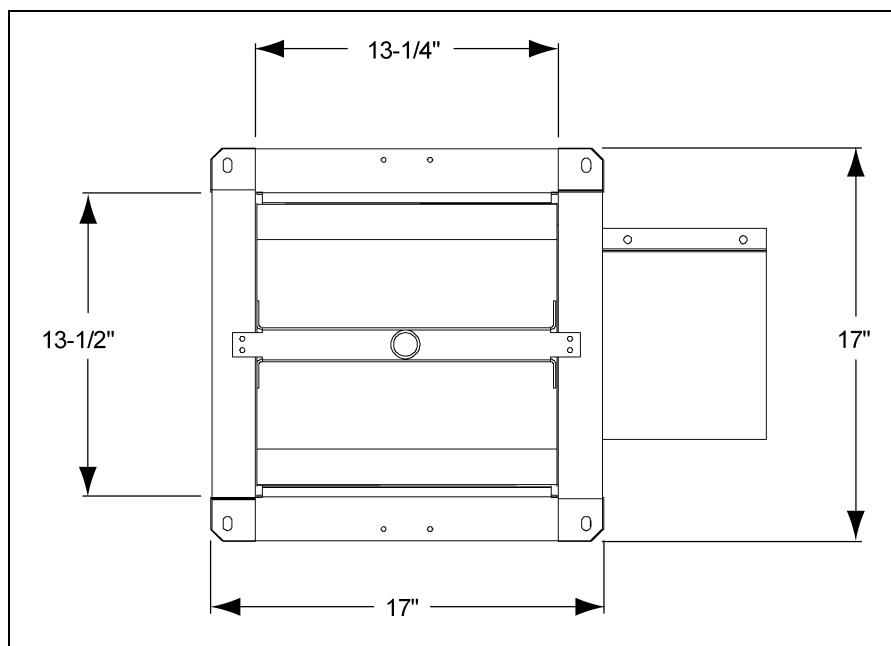

Figure 4B
3. The center sump and the unload tube should be installed when the floor reaches the center of the bin. Field cutting of the planks in the center of the bin will be required to allow the center sump to slip into place. The sump is designed to fit within two (2) plank widths. Refer to the sump dimensions in Figure 4B and cut the opening accordingly.